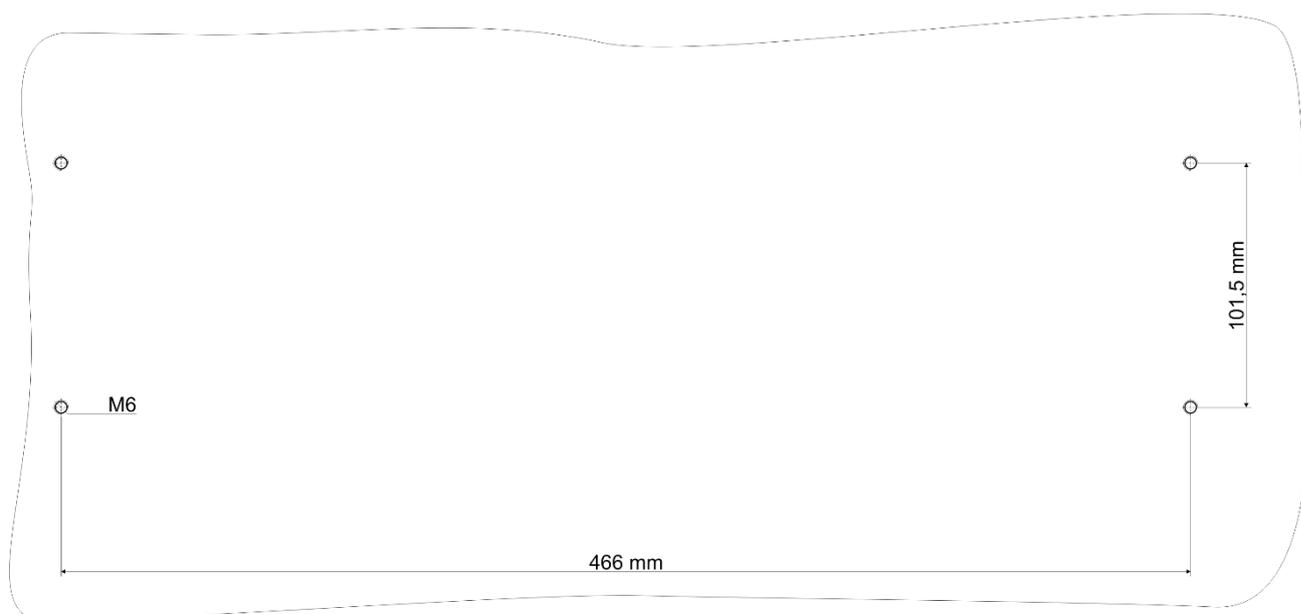

Fig. 10.2. Mounting guidelines for a 4U-high panel-mount device.
- for the ATx-4U enclosure with panel mounting in Fig. 10.2,